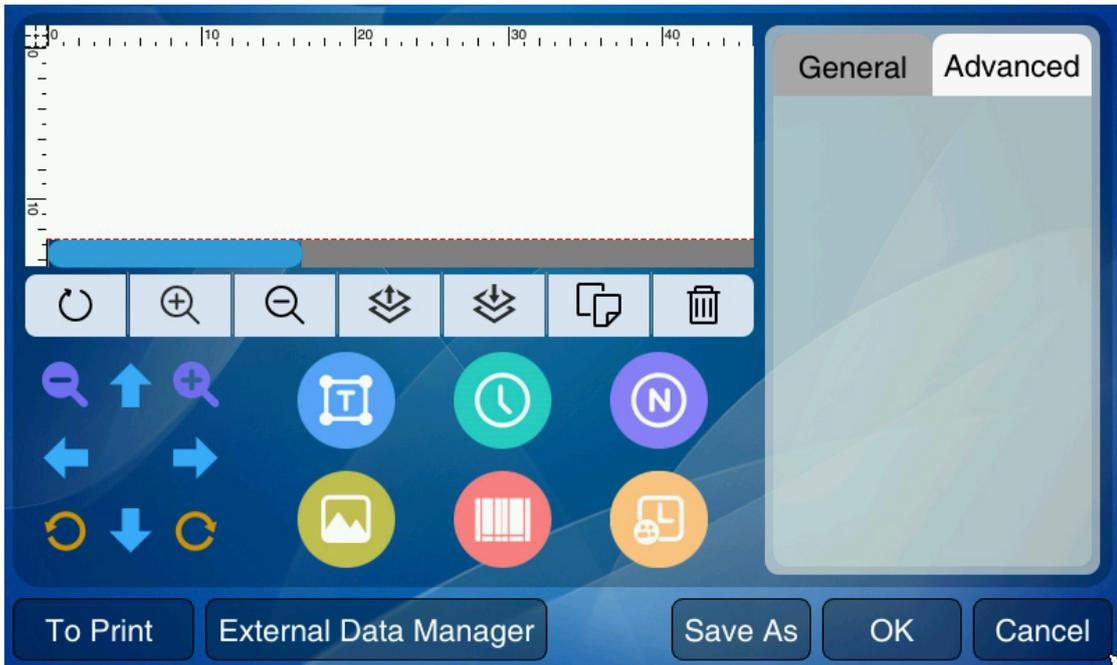

Figure 5-1 File editor interface
1、Click home page button, the page for editing the file is displayed. See Figure 5-1.